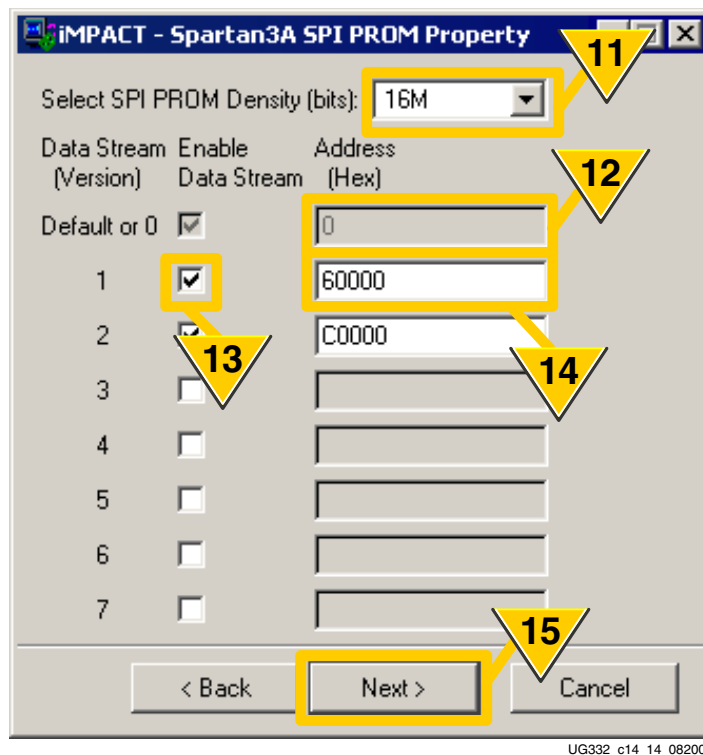

Figure 14-15: Enter a PROM Density and Specify MultiBoot Image Start Locations
- As shown in Figure 14-15, Select SPI PROM Density, which is always specified in bits. This example uses a 16 Mbit PROM.